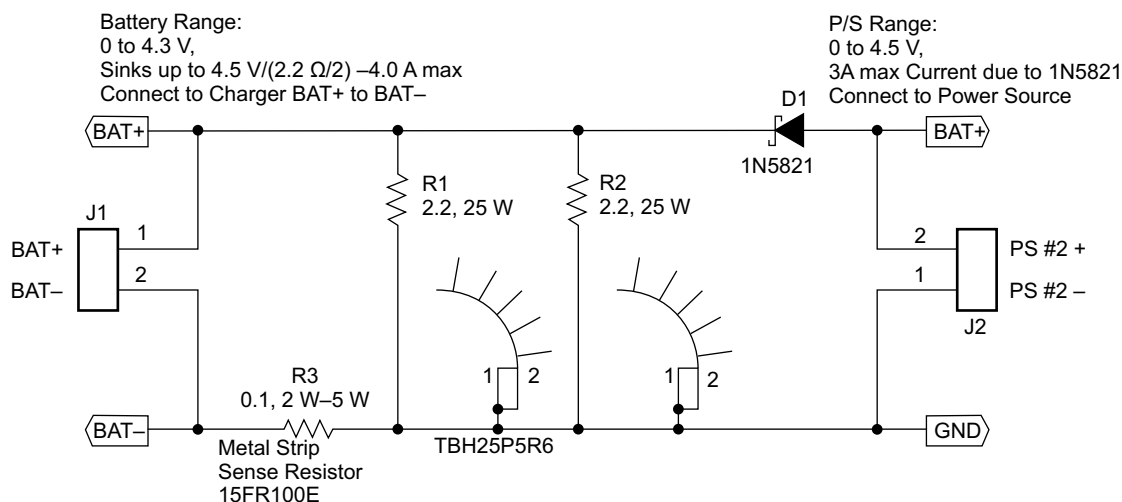

Figure 3. Battery Emulator
- Adjust power supply #2 (PS #2) for approximately 3.6 V to the input side (PS #2±) of the battery emulator shown in Figure 3, then turn off PS #2.